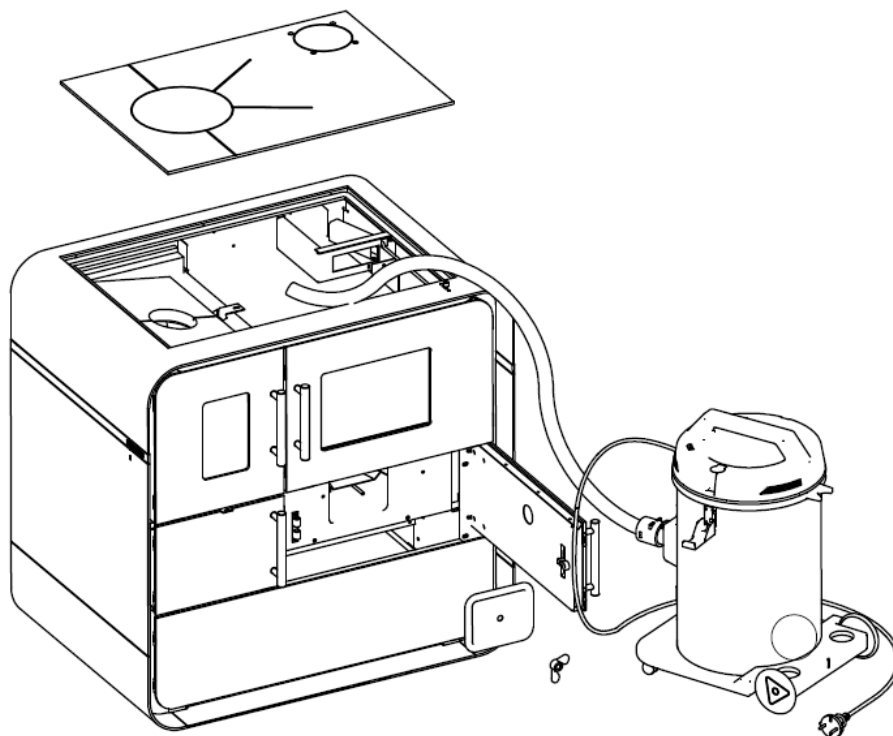

Figure 11
- o Removal and thorough cleaning of the cooker plate are preferable to be done once in the season (Figure 11).